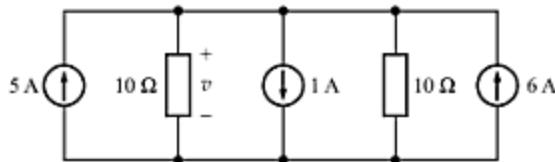

Fig. A-85
- A-44. Determine voltage v in the circuit of Fig. A-85.